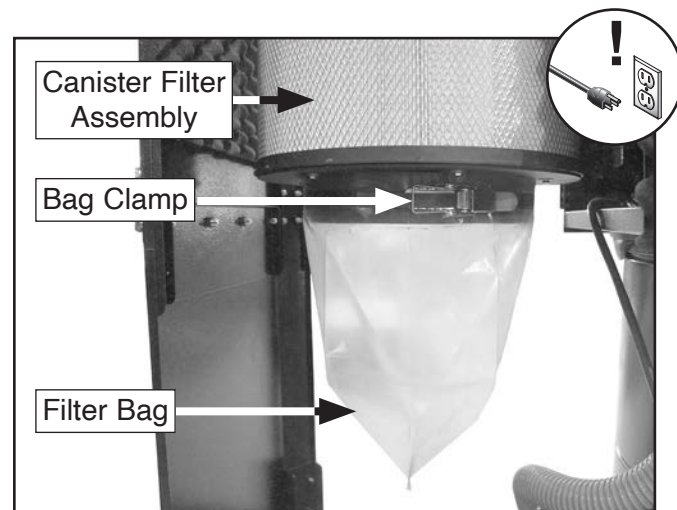

Figure 77. Location of filter bag and bag clamp.
5. Open both maintenance doors, then release bag clamp from around bottom of canister filter assembly (see **Figure 77**), and remove filter bag.